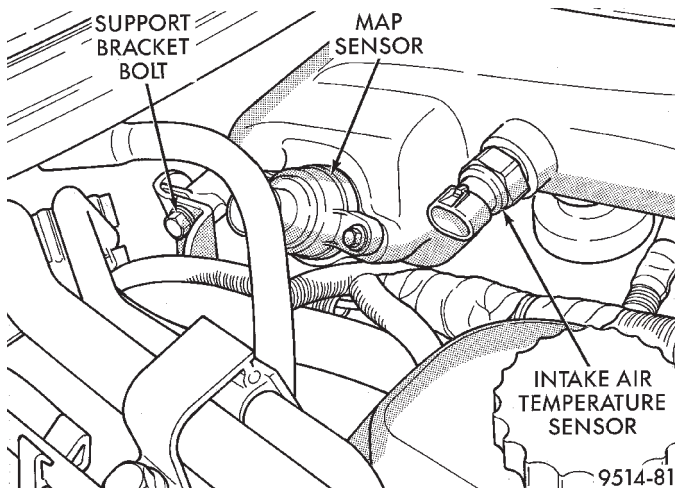

Fig. 31 Intake Manifold Sensors and Left Manifold Support Bolt
- (3) Disconnect fuel supply tube from rail. Refer to Group 14, Fuel System for procedure.
- (4) Unplug connectors from MAP and intake air temperature sensors (Fig. 31).
- (5) Remove plenum support bracket bolt located rearward of MAP sensor (Fig. 31).